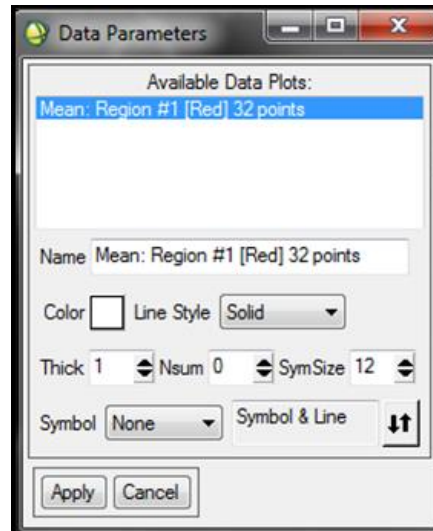

Figure 5.11e. Data Parameters Window
- The Data Parameters Window opens. From here you can (Figure 5.11e).